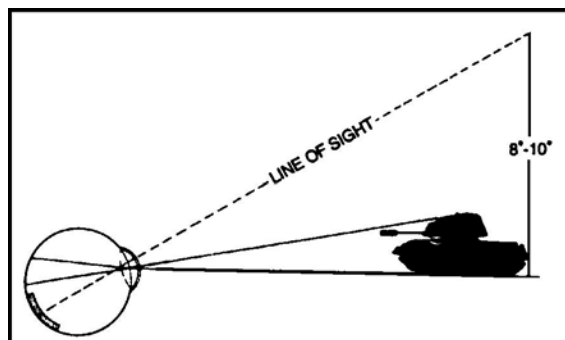

Figure 4. Off-center vision.
- c. Use off-center vision to observe specific objects by looking about 6 to 10 degrees left, right, above, or below them (Figure 4).